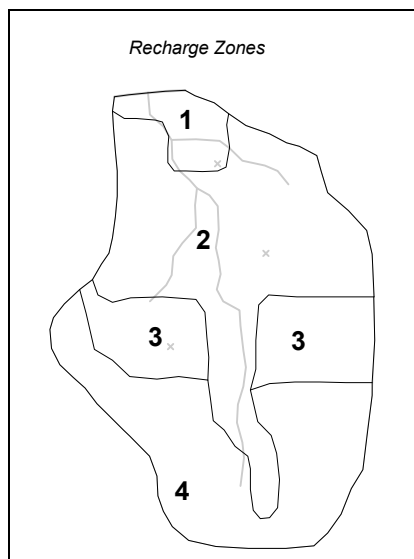

Figure 1. Recharge Zones
First, we will assign the transient recharge rate for the recharge zones. The recharge zones are shown in Figure 1. There are four recharge zones defined by five polygons. We will leave the recharge rate for zone 1 at zero. We will assign a transient recharge rate to the other three zones.
4. Select the polygon corresponding to recharge zone 2 in Figure 1.
11. Select the two polygons that make up recharge zone 3 in Figure 1. Click on the first polygon and then hold down the *Shift* key while clicking on the second polygon.